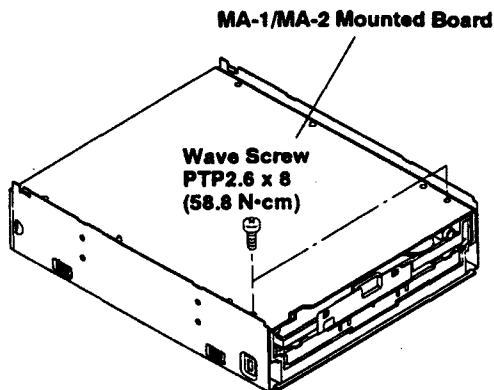

Fig. 4-4 (a) MA-1/MA-2 Mounted Board Replacement
- Remove two wave screws (PTP2.6x8) securing MA-1/MA-2 Mounted Board. (Refer to Fig. 4-4 (a))